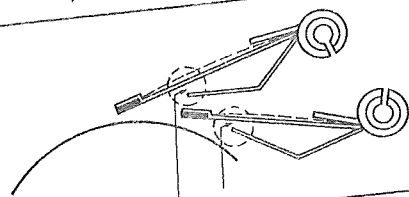

Fig. 44
3. Check stress limiters on index and pawl finger. Make sure the end of the stress limiter is away from its finger by not more than 2 times its thickness nor less than one thickness before engagement. (Fig. 44).
1. Turn index finger collet until jewel is completely disengaged from wheel. Check gap between gage and index finger (fig. 44). The gage should be AS CLOSE AS POSSIBLE but not touching the finger. Adjust by bending gage near collet to a maximum of one finger thickness.